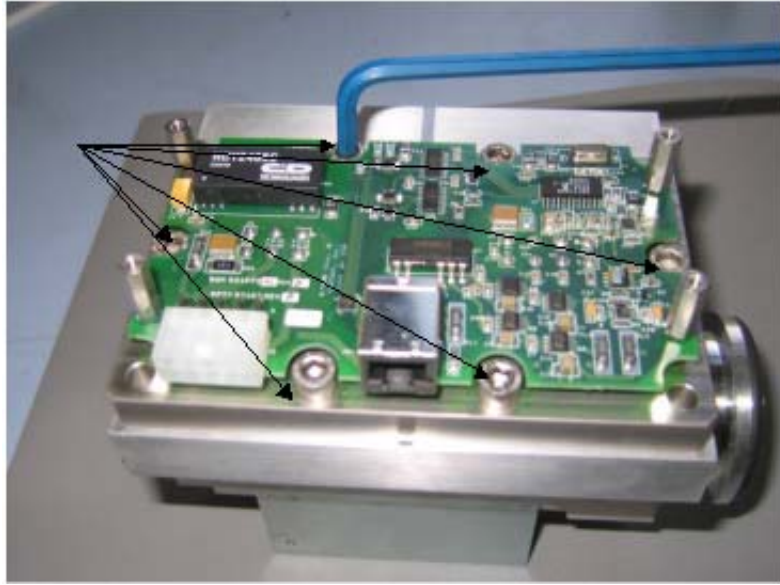

Figure B-62 Spectrometer Header Assembly Screws
- Using an M5 allen wrench, remove the six screws holding on the spectrometer header assembly (Figure B-62).